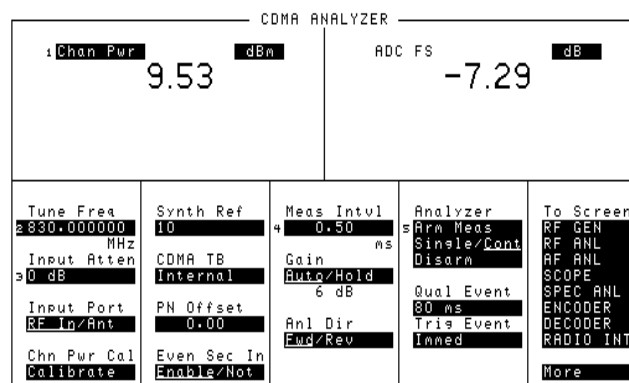

Figure 14. Channel Power Measurement Using the CDMA ANALYZER Screen on the 8921A Option 600 Test Set
2. Move the cursor to the field on the upper-left part of the screen. Push the knob and select **Chan Pwr** from the **Choices** menu (see Figure 14).
11. Select **CDMA ANL** from the **To Screen** menu. The CDMA ANALYZER screen appears (see Figure 14).